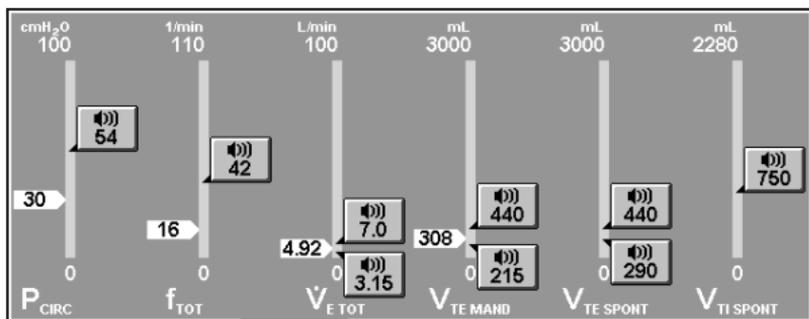

FIGURE 9.
- ⇨ Touch the ALARM SETUP button (lower screen) to view the current alarm setup (see Figure 9).